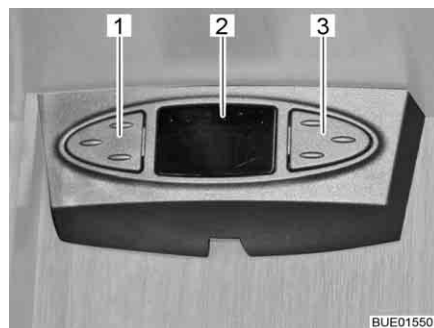

Fig. 34 Satellite mouse
Depending on the model, the satellite receiver is equipped with a satellite mouse. The satellite mouse's display (Fig. 34,2) shows the current channel. The two buttons can be used to operate the basic functions of the satellite unit (changing channel, switching on/off).
- Choosing the previous channel from the list: Press left button (Fig. 34,1).
- Choosing the next channel from the list: Press right button (Fig. 34,3).
- Switching between radio and TV: Press the buttons (Fig. 34,1 and Fig. 34,3) briefly at the same time.
- Switching the receiver on/off: Press and hold the buttons (Fig. 34,1 and Fig. 34,3) at the same time.